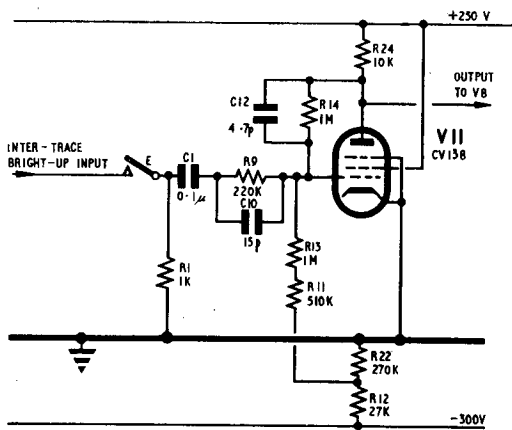

Fig. 10. Inter-trace bright-up amplifier
37. The inter-trace bright-up amplifier is a straightforward see-saw amplifier and inverter, containing a single pentode V11 (CV138). A simplified circuit diagram appears in fig. 10.